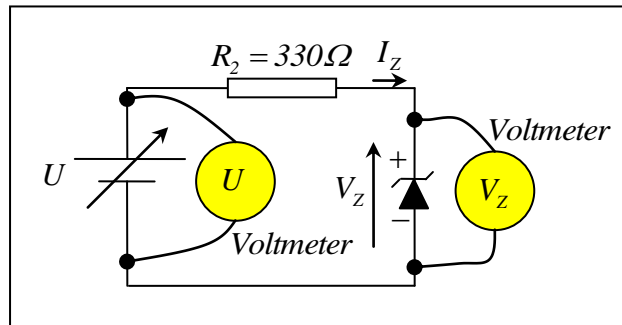

Figure 1. Circuit representing the output voltage characteristic $V_Z = f(U)$
- Assemble the circuit as shown in Figure 1 and measure the output voltages corresponding to the input voltages given in Table 1.